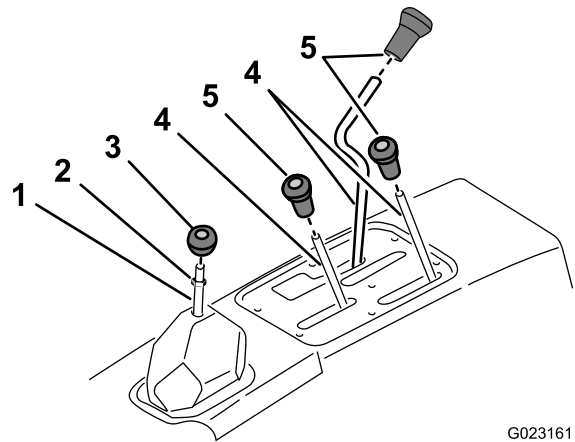

Figure 6
1. Unscrew and remove all knobs from console levers and from the gear shift lever (Figure 6).
2. Remove the jam nut from the gear shift lever (Figure 6).